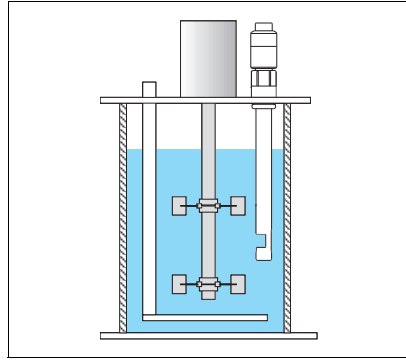

Fig. 5: Installation of OUSBT66 in fermenter
- The best installation location is in the ascending pipe (item 1). Installation is also possible in the horizontal pipe (item 5).
- Do not install the sensor in places where air may collect or foam bubbles form (item 3) or where suspended particles may settle (item 2).
- Avoid installation in the down pipe (item 4).
- Orientate the sensor in such a way that the medium flows through the measurement section (self-cleaning effect), refer to figure 5: Orientation of OUSBT66.